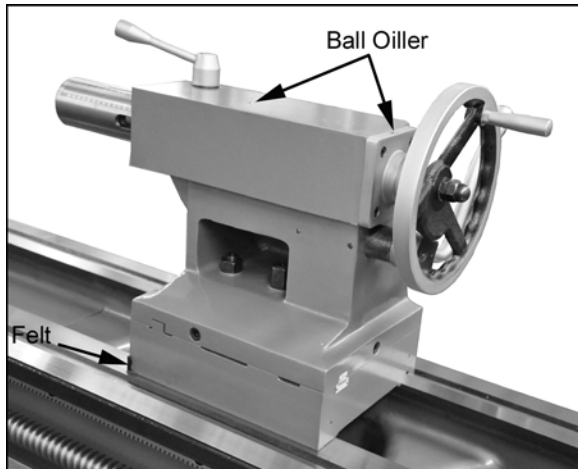

Figure 15 – Tailstock lubrication
15. **Tailstock** – Daily lubricate two ball oilers (Figure 15) on top of tailstock with SAE 20W oil.